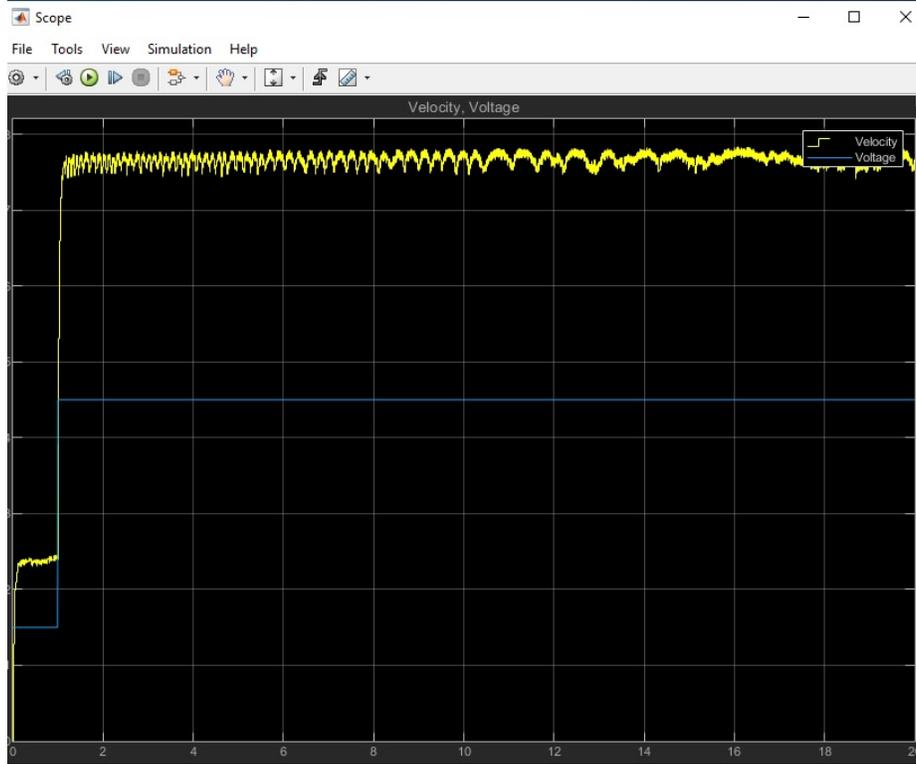

Figure 4: Input and output for a bump test
- In the **Scope**, the input voltage (V) and the motor’s velocity (Rad/s) will be displayed.(See Figure 4)